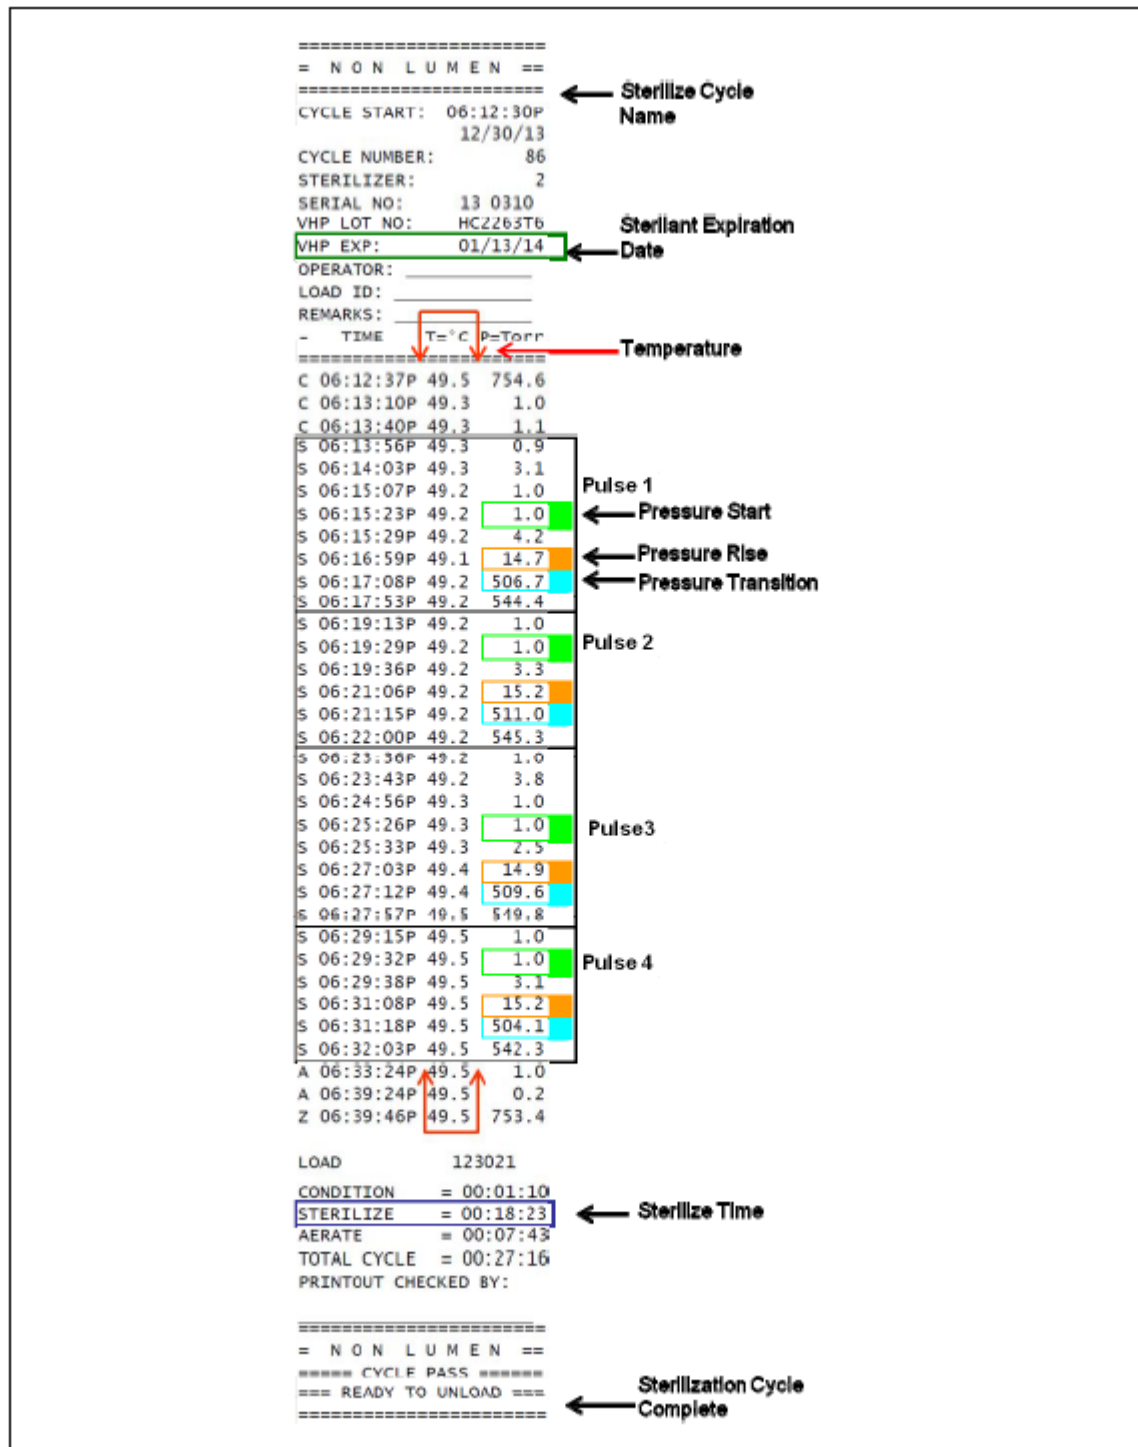

Figure A-3. Labeled Extended Non Lumen Cycle Printout (Typical)
- **EXAMPLE:** For Figure A-3, the load was 21st run on December 30th.